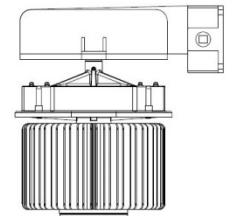

Fig 4
**UNIVERSAL ADAPTOR PLATE (Fig 4)**